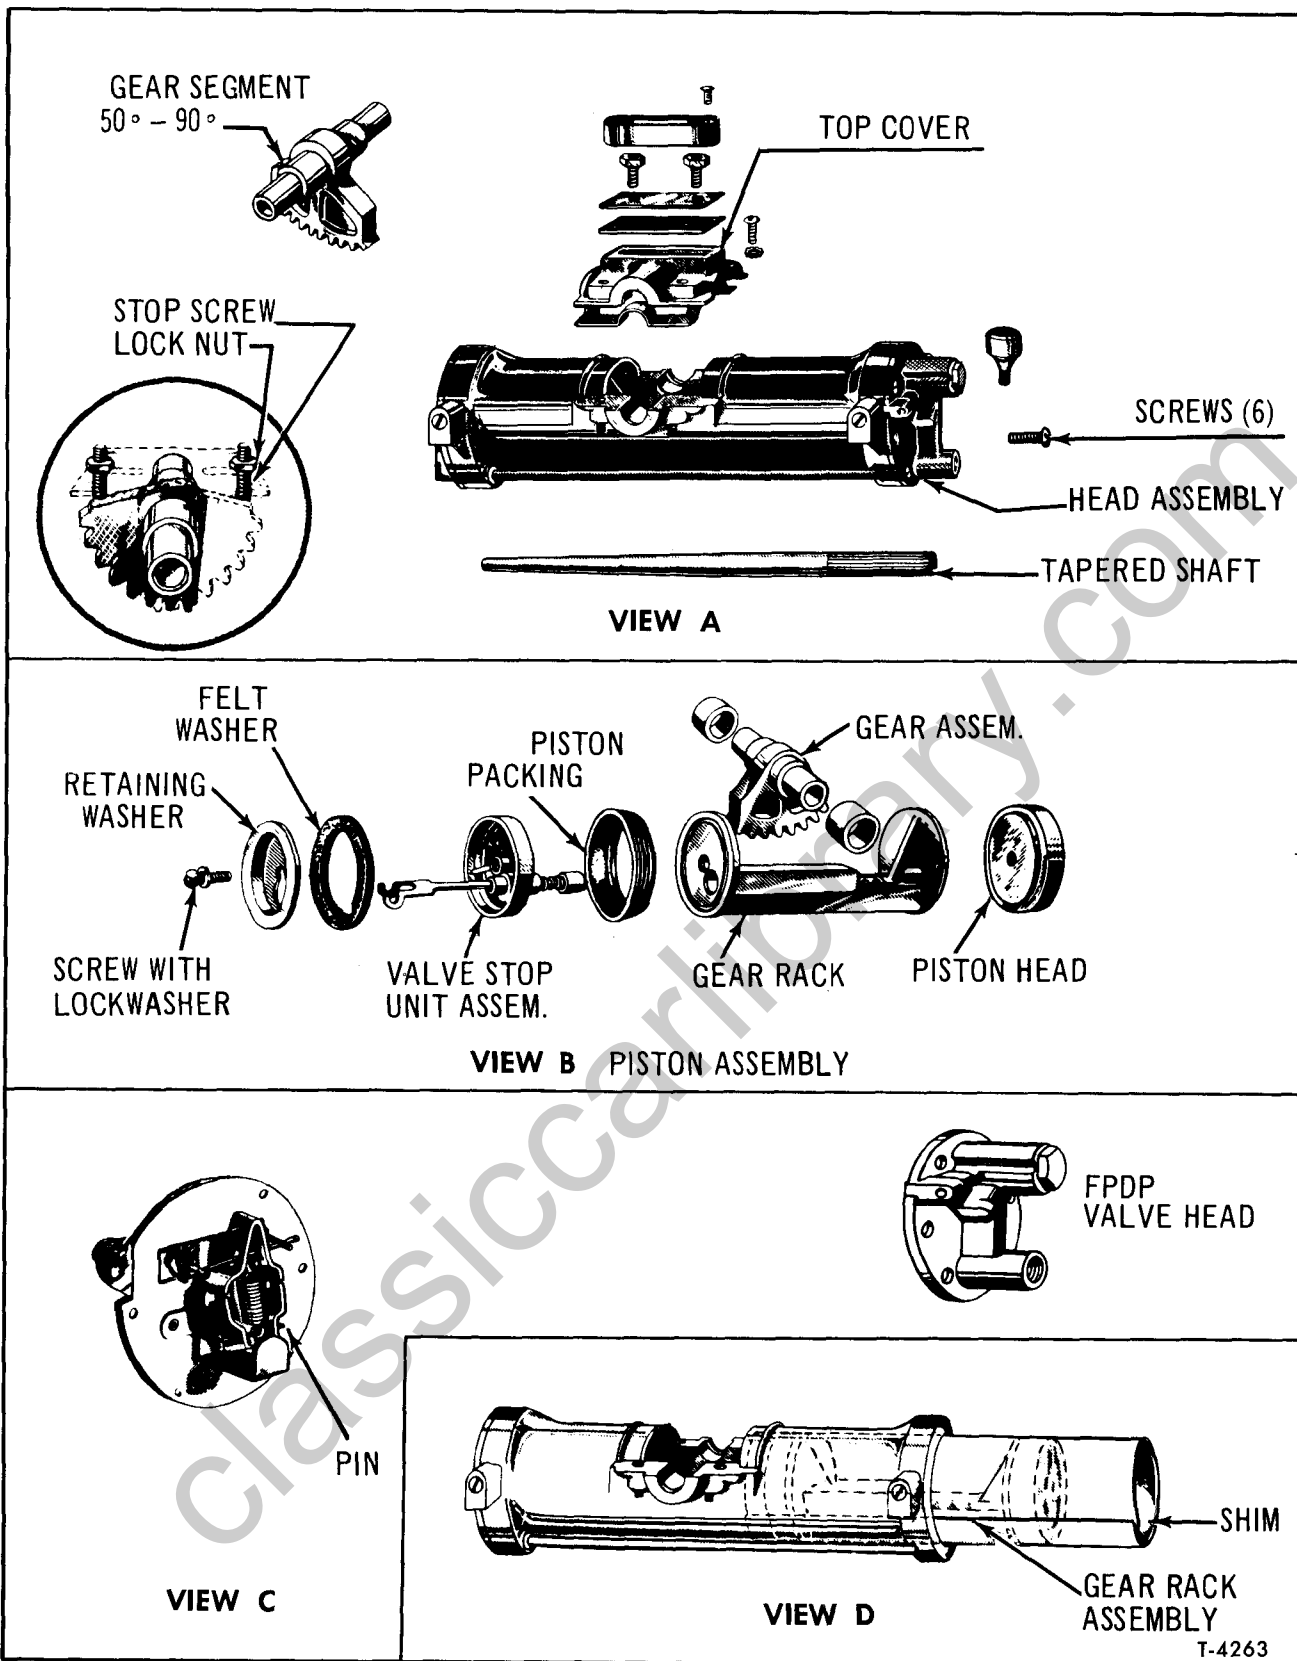

Figure 24—Air-Operated Wiper Motor (Series 90 Conventional Cab)
Key numbers in text refer to figure 24.
For all internal repairs it is necessary to remove head assembly Views A and C, figure 24. If necessary to take motor apart, all parts should be carefully checked for wear and lubricated before assembly. Worn parts should be replaced.
1. Remove six valve head attaching screws and turn shaft so that gear rack assembly, View B, figure 24, is brought back as near as possible to the head.
3. To replace head, move gear rack assembly View B, figure 24, as near to the opening as possible.
4. Raise valve stop unit and hook under pin View C, figure 24, making sure that air passage in head is directly opposite air tube in cylinder.
2. Remove top cover, View A, figure 24, by removing four attaching screws.
7. Assemble parts making sure they are placed in their relative positions as shown in View B, figure 24.
a. Wrap entire rack in steel shim as shown in View D, figure 24.
b. Insert rack and shim into cylinder far enough to pass opposite end of opening (View D, fig. 24). Hold shim and push rack down as far as it will go. Hold rack at this point with screwdriver and withdraw shim.
3. Loosen lock nut, View A, figure 24, and run down stop screw, View A, figure 24, until wiper is stopped by screw.